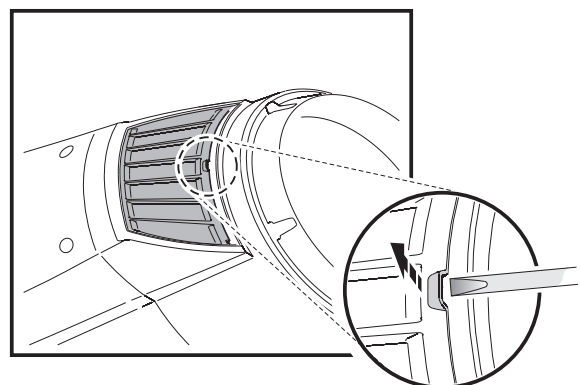

Figure 16: Removing head air filters
2. See Figure 16. On each side of the head, use a flat-bladed screwdriver to lever the front edge of each filter holder slightly away from the head, then slide the screwdriver across to each corner and gently lever each corner free. Pull the filter holders forwards to unclip and remove them.